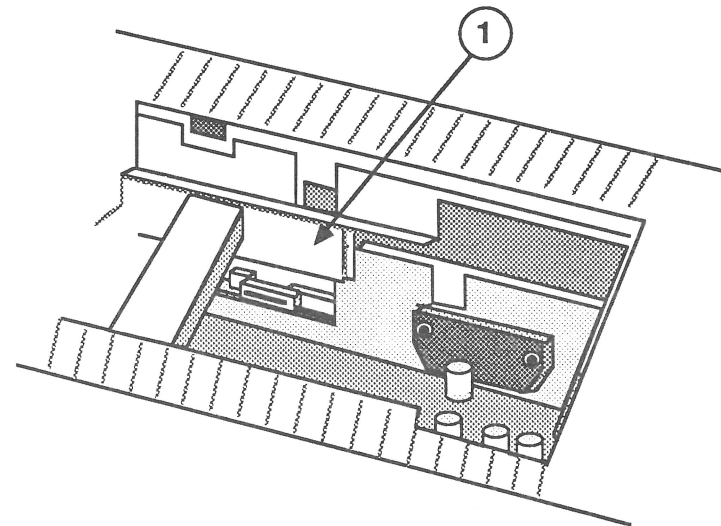

FIGURE 7
- b) The plastic divider in the option card compartment should be in front of the power supply heat sink (Figure 7, #1).